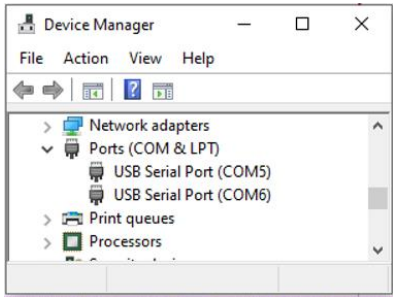

Figure 23: Windows - COM ports
- On Windows, two COM ports are displayed in the device manager (see Figure 23).
The lower numbered COM port (COM5 in Figure 23) is for the DA16600 debug interface. The higher numbered COM port is for the DA16600 ATCMD interface.